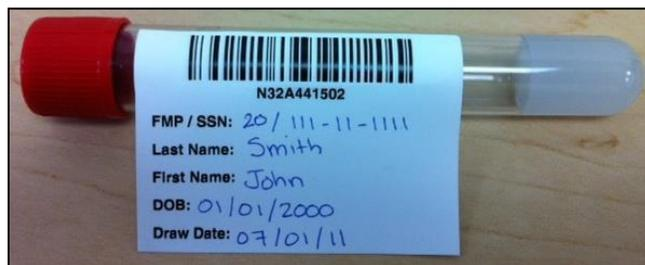

Figure 6 (Proper Label Placement)
- Refer to *Figure 6 (Proper Label Placement)* for an example.